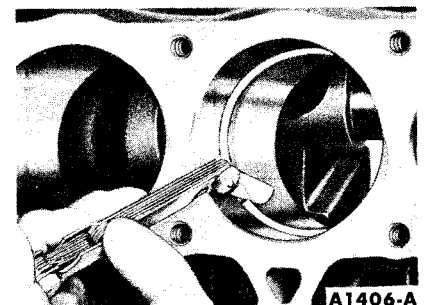

FIG. 67—Piston Ring Gap
5. Measure the gap between the ends of the ring with a feeler gauge (Fig. 67). If the ring gap is less than the recommended lower limit, try another ring set.